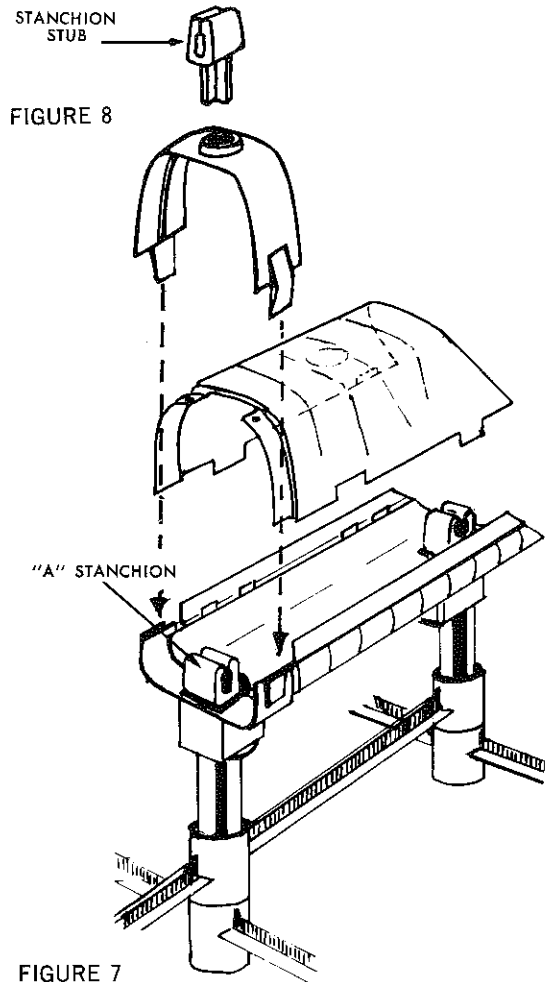

FIGURE 7
□ Fit the tunnel clamp bottom over the center "A" stanchion and set the tunnel bottom so that it slides over one of the outside "A" stanchions. (Fig. 7) The other end of the tunnel is supported by the center "A" stanchion.